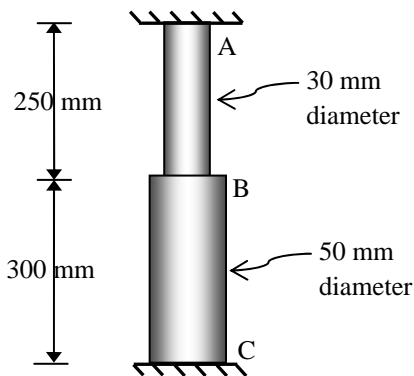

Fig. 6
8. A rod consisting of two cylindrical portion AB and BC (Fig. 6) is restrained at both ends. Portion AB is made of steel ( $E = 200$  GPa,  $\alpha = 11.7 \times 10^{-6} / ^\circ\text{C}$ ) and portion BC of brass ( $E = 105$  GPa,  $\alpha = 20.9 \times 10^{-6} / ^\circ\text{C}$ ). Knowing that the rod is initially unstressed, determine (a) the normal stresses induced in portions AB and BC by a temperature rise of  $50^\circ\text{C}$ , (b) the corresponding deflection of point B.